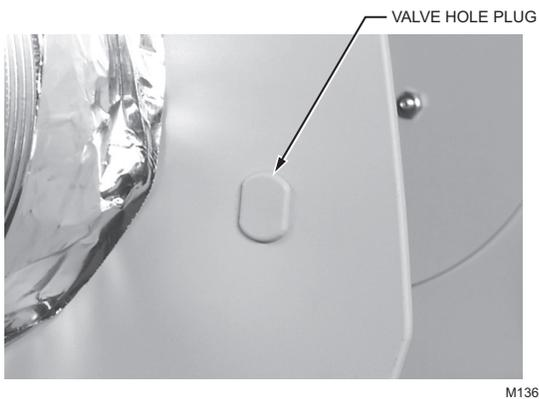

Fig. 26. Installing Valve Hole Plug.
7. Insert the Valve Hole Plug in the "D" hole on the opposite side of the Float Valve. See Fig. 26.